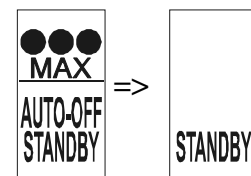

Fig 3
3. "STANDBY" will flash on the LCD (fig 3).